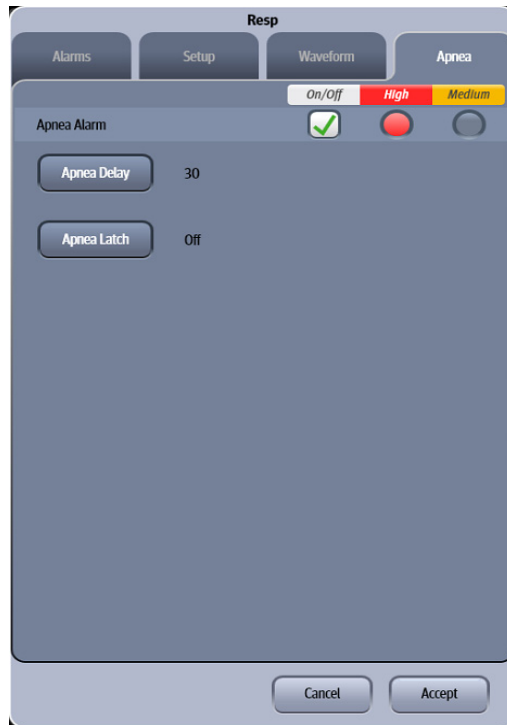

FIGURE 10-4 Example Resp Dialog (Apnea Tab)
2. Select the **Apnea** tab (as shown in FIGURE 10-4).